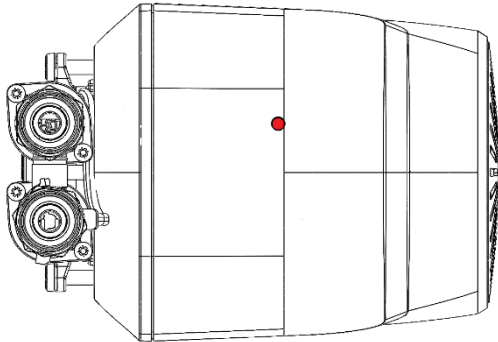

Figure 4
- Ensure all outlets are closed, turn power supply 'on'. Check the pump has power, a continuous red light from the power light indicator on top of unit should be visible (Fig 4).
Electrical supply	Check power on indicator light: Continuous red light, power on (Fig. 4) Check wiring connections If flow exists inline with requirements – check that all electric switches are on Is the correct fuse fitted? Check circuit breaker is set